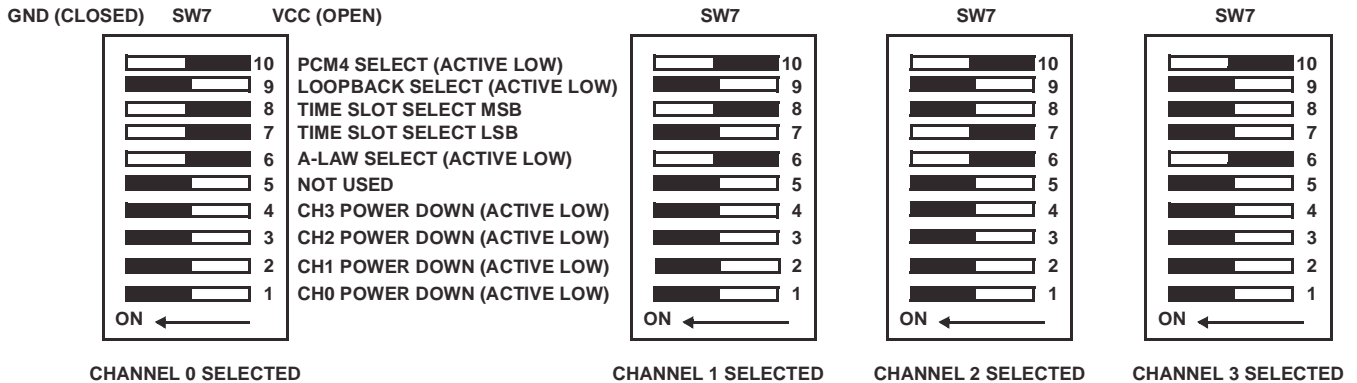

FIGURE 2. MOTHER BOARD SW7 DEFINITIONS AND CHANNEL SELECTION
- Configure dipswitch SW7 as shown in Figure 2 for Channel 0 selected.
1. Configure mother board for testing channel 0 with the PCM4. Reference Figure 2.